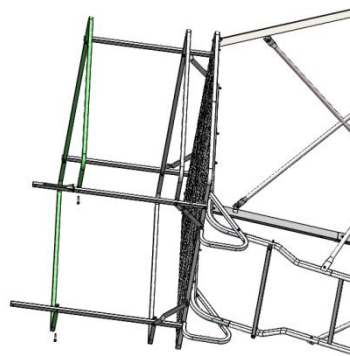

Figure 20
Step 19: Attach the assembled shooting rail to the two platform vertical rails (TS305.11),the door upright rail (TS305.16) and the door upright left rail (TS305.22) by using four 1/4"-20×2" bolts (48153B) and four 1/4" lock nuts(48752B). Leave these hand tight for now. (**Figure 20**)